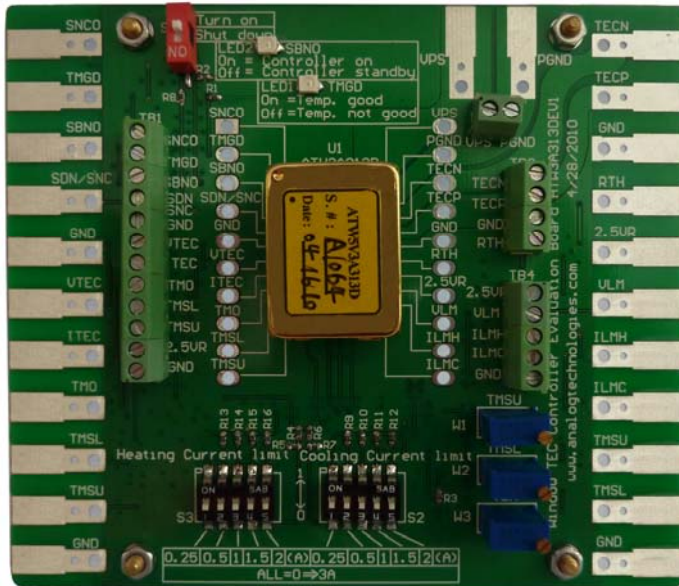

Figure 1. Physical Photo of ATW3A313DEV1
The ATW3A313DEV1 Evaluation Board is consisted of a complete application circuit for driving a TEC controller. It can set the output current, the output current limits, and has 2 LEDs for indicating the working mode of the controller, standby mode or working mode, and if the temperature is within the pre-set temperature window, temperature good, respectively. The board has numerous connection/soldering pads and terminal connectors for making connections with external components and instruments. Its physical photo is shown in Figure 1.
- Plug in the ATW3A313D controller onto the evaluation board as shown in Figure 1.